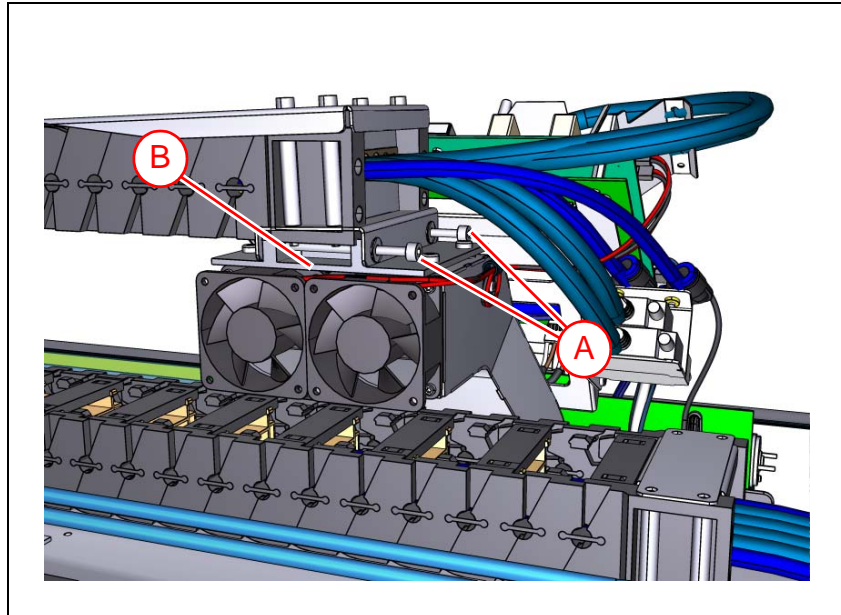

Figure 5-33. Remove cable chain from bracket.
11. In the X wagon end of the cable chain, remove the long screws ('A' in Figure 5-33) that attach the cable chain to the bracket ('B') on the *Fan holder unit* on the X wagon.